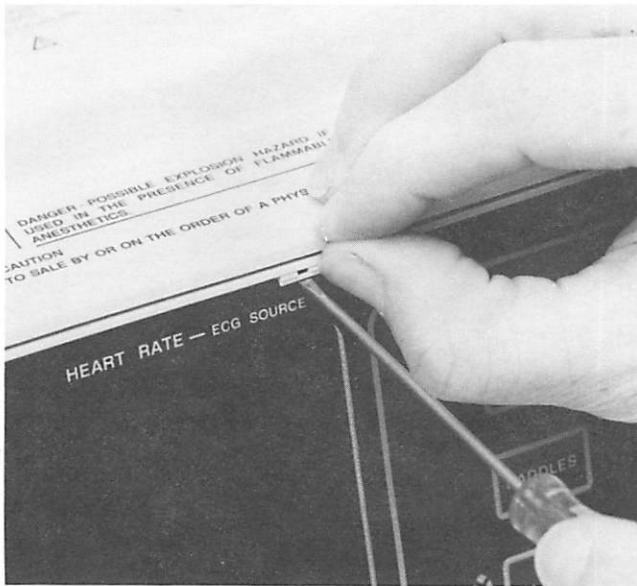

Figure 4-8.
1. Lift one of the clips at the top of the panel and slip a small flat-blade screwdriver between the clip and the panel. See Figure 4-8.